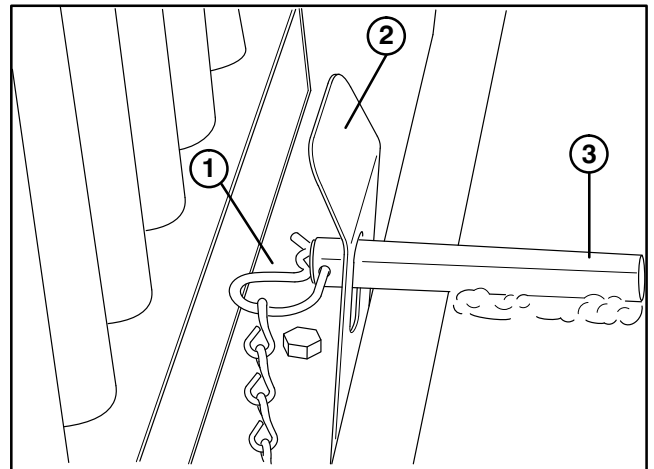

Figure 4
4. Lower seat and secure mounting pin to locking spring flap with a hair pin cotter (Fig. 4).